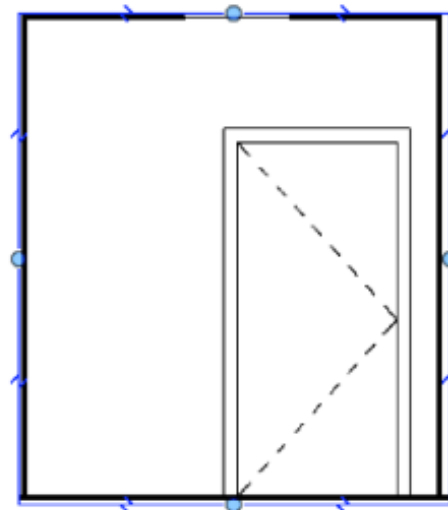

Figure 7-59
9. Move the crop region so that it is tight against the walls, as shown in Figure 7-59.